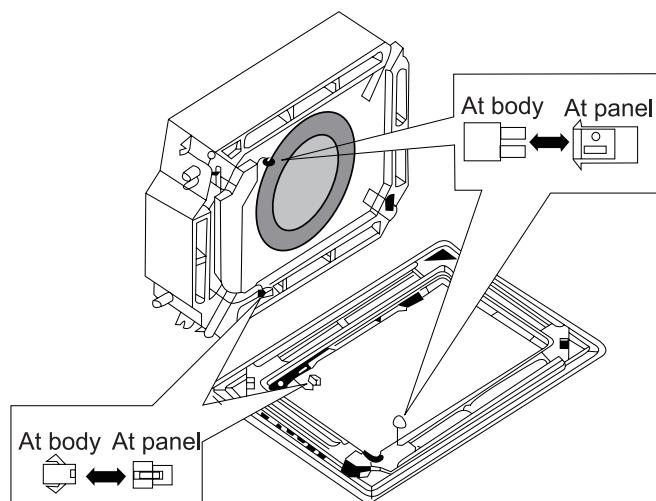

**Fig.24**
1. Install two bolts (Accessory) onto the main unit (the corner of refrigerant tubing side and the opposite corner).The detail is shown in Fig.24. Pay attention that leave 15-20mm bolt unscrewed so as to hang the panel easily